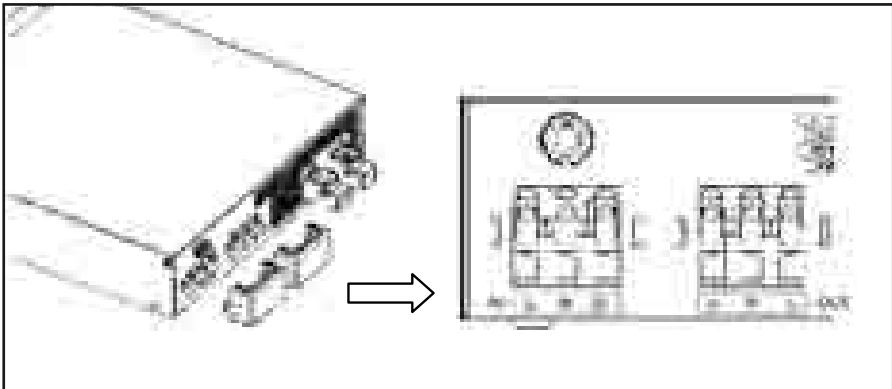

Figure 4 AC Cable Connections to unit
On the left of rear chassis is the AC hardwire cover (see fig 4). A 2x3 station terminal block is provided to make the AC connections. The terminal block is used to hardwire the AC input, AC output, and Earth/ground. Electrical regulations require that an external disconnect switch be used in the AC input wiring circuit. The AC breakers (MCB) in a sub panel should in most cases satisfy this requirement and local regulations.*
Step 2- Feed the wires through cable clamp and AC cover. See Figure 4.
Step 3- Following the wiring guide located in the AC wiring compartment as in Figure 4, connect the GND (green/yellow), Line (brown), and neutral (blue) wires from the AC input (utility, generator, etc) to the terminal block.